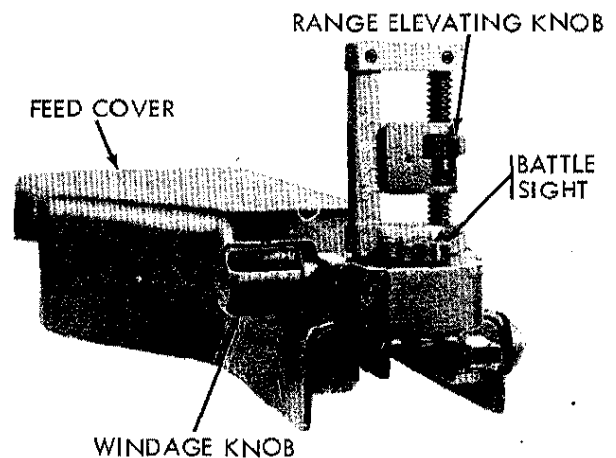

FIGURE 3. REAR SIGHT - RAISED POSITION
f. Rear Sight. The rear sight (fig. 3) has two controls and a battle sight.
(1) Elevation knob. The elevation knob is located on the right side of the leaf sight (fig. 3). The function of the knob is to provide vertical adjustment of the sight slide.
(2) Windage knob. The windage knob is located on the left side of the sight base. The function of the knob is to provide accurate lateral adjustment.